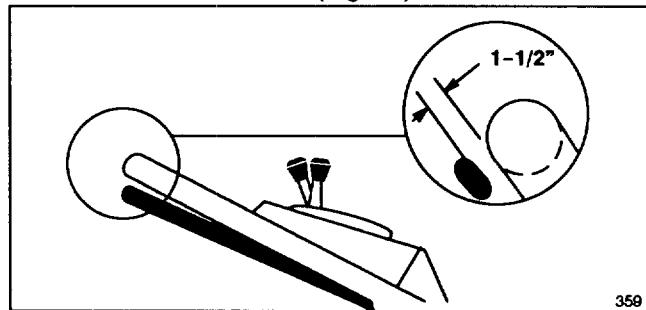

Figure 20
2. CHECK ADJUSTMENT — Adjustment is correct when rear wheels stop turning and control bar is about 1-1/2 inches from handle (Fig. 20).